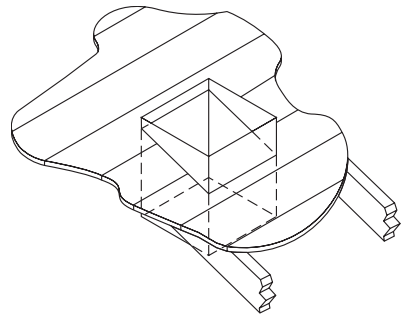

Figure 20
6. Run the Support Box through the roof as shown in **Figure 20**, and place it so that the bottom of the Support Box protrudes at least 2 inches below the finished ceiling. Align the Support Box vertically and horizontally with a level. Temporarily tack the Support Box in place through the inside walls and into the roof sheathing.